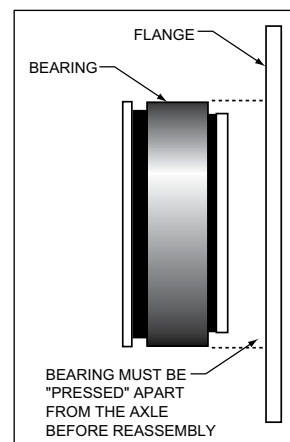

Figure 6.
- A new "Green" non-adjustable bearing and seal kit (purchased separately) must be pressed onto the axle. The flange must be "pressed" off of the bearing, Figure 6. **The Wilwood caliper mounting bracket (1) has been designed to replace the original flange and fit over the new bearing.** Insert the axle into the rear end housing and secure.